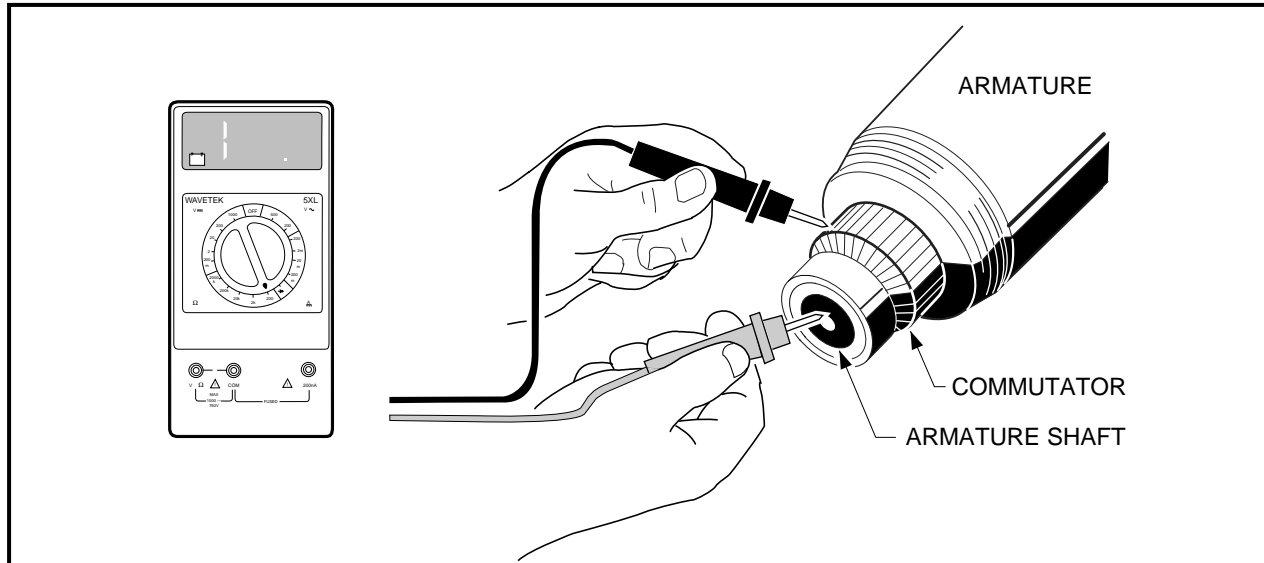

Figure 12-13 Armature Ground Test
1. Using a multimeter set on 200 Ω (ohms), place the positive probe on the commutator bars and the negative probe on the armature core. The reading should be **NO** continuity. If the reading is incorrect, replace the armature and the two bearings (**Figure 12-13, Page 12-10**).